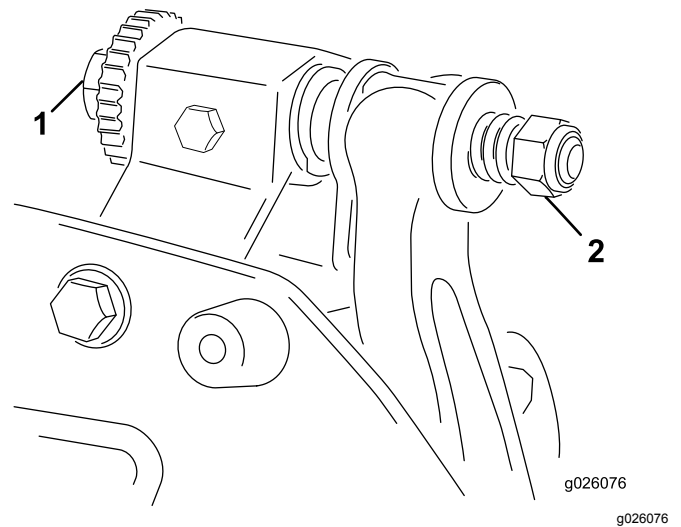

Figure 11
- A. Turn the bedbar adjusting screws clockwise (Figure 11), 1 click at a time, until you feel and hear light contact.
6. Turn the right bedbar adjusting bolt (Figure 11) until you feel light pressure on the shim when sliding it side-to-side. Remove the shim.